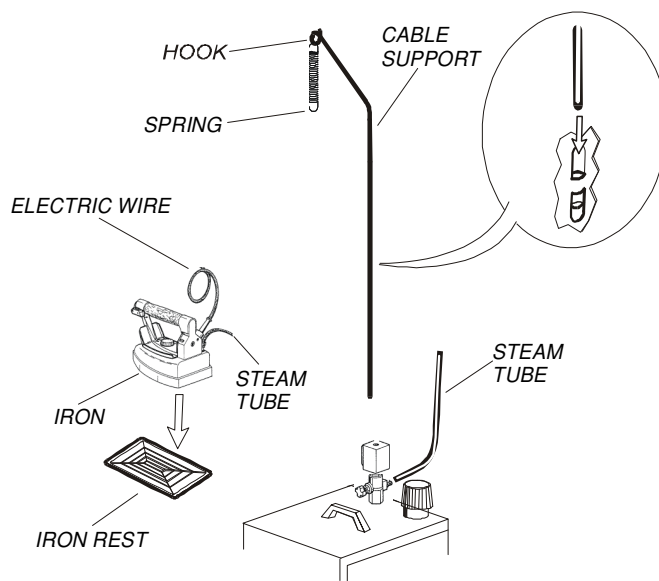

Fig. 1
For the transport and the displacement, seize the generator only by the handle, never pull its electric cables (fig. 1).
2. Remove MINI 5 from the box, mount the two pieces of the cable support and insert it deep into the special support holder (fig. 1) placed on the back side of the generator.
4. Place the iron rest on the ironing table and put the iron on its rubber iron rest (fig. 1).
- During ironing operation, always put the iron on its rubber rest (fig. 1) and pay attention to the position of the wires: if they twine or get in touch with ironing board, they might cause short circuits.